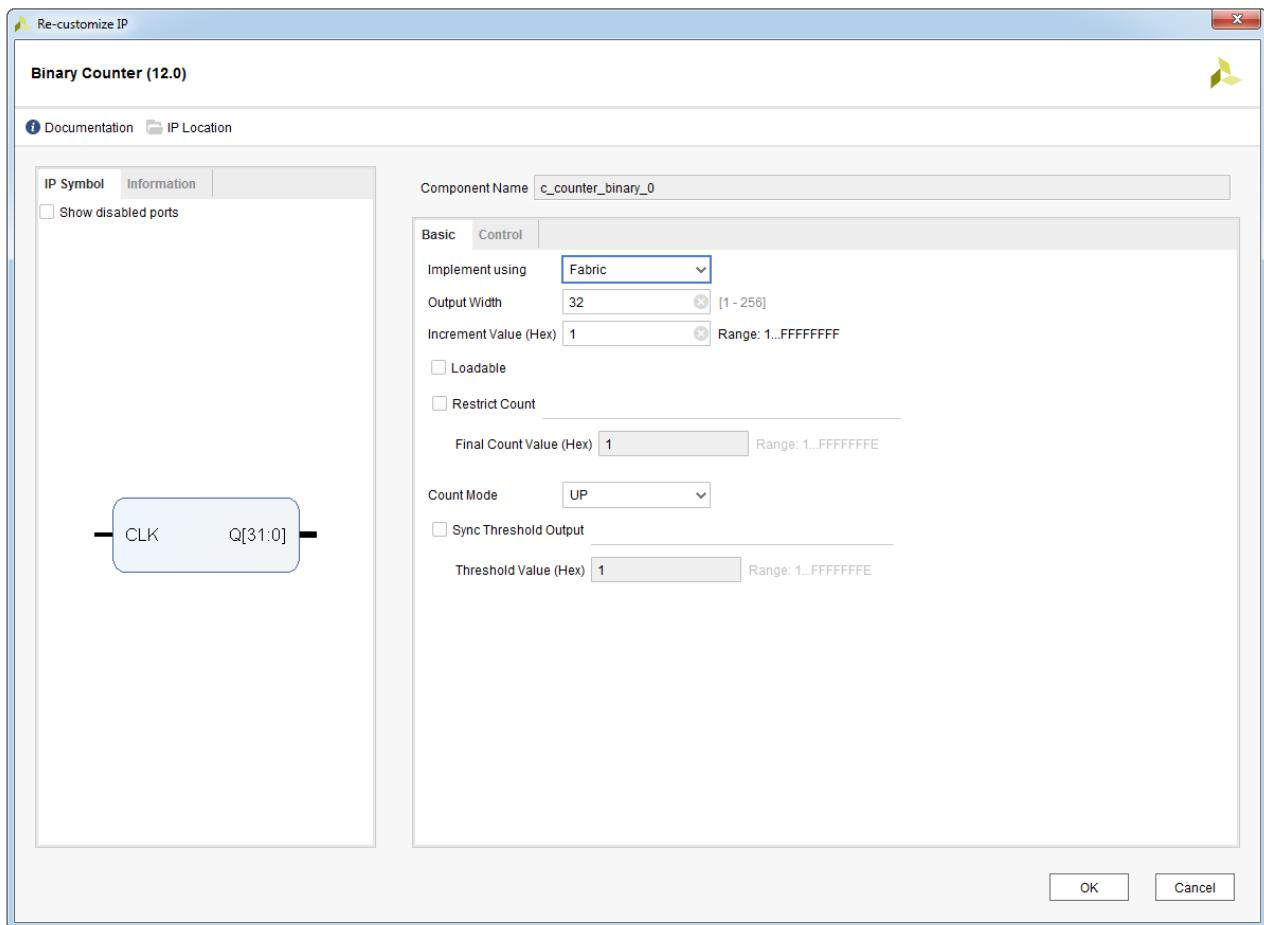

Figure 12.54: Binary Counter (12.0) re-customization IP dialog box - Basic tab
- set **Output Width** value to **32** and click **OK**, see Figure 12.54 and